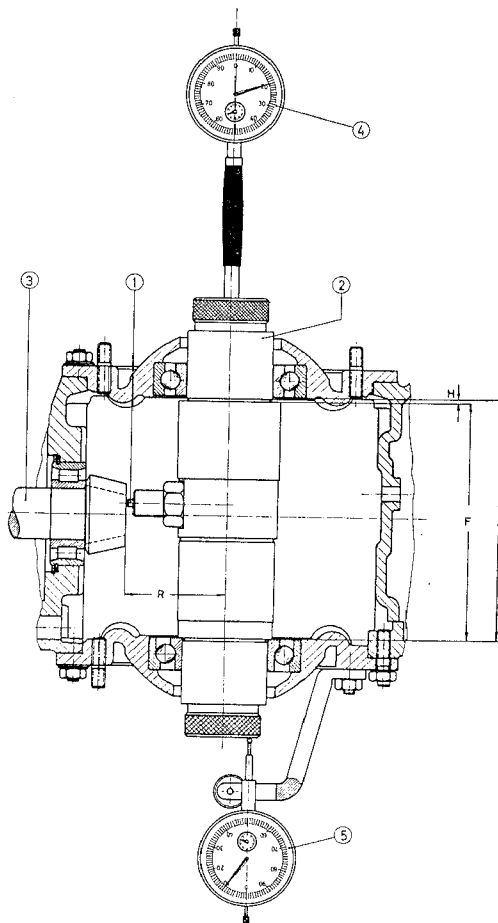

Fig. 98
6. Turn the transmission housing so that the gauge moves axially and rests with its own weight on the inner race of the ball bearing in the right half of the housing. The value shown on the dial gauge must be added to the length of gauge P 33 (marked on gauge body) to give the total depth "J" of the housing (Fig. 98).